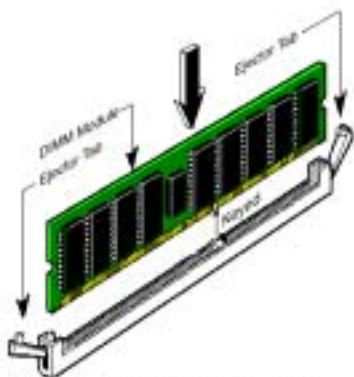

Figure 2-6. DDR DIMM module installation
- Step 5.** Insert the DDR DIMM module into the expansion socket as shown in the illustration. Note how the module is keyed to the socket. You can refer to Figure 2-6 for the details. ***This insures the DDR DIMM module will be plugged into the socket in one way only.*** Firmly press the DDR DIMM module into DDR DIMM socket, making certain the module is completely seated in the DDR DIMM socket.